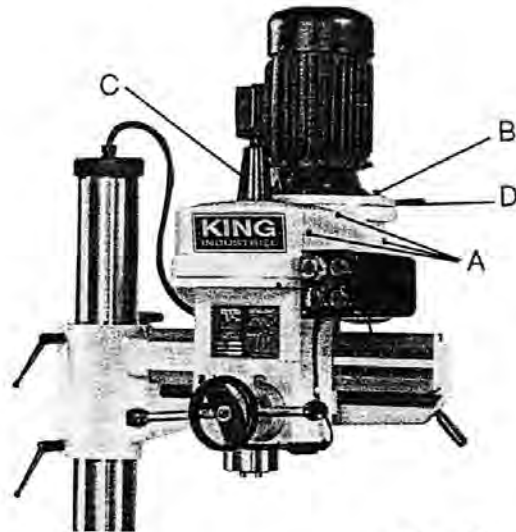

Fig. 2
- (1) Turn off the power.
- (2) Remove motor side plate (right & left) by loosening set screw A (Part No. 66).
- (3) Loosen motor base screw B & C (Part No. 59, 60), move the grip D by clockwise direction to loose the motor belt.
- (4) Select the suitable R. P. M., according to speed chart (Fig. 2). Then place the belt on desired pulley step. Hold the grip D toward counter-clockwise direction for pulling belt to tight.
- (5) Tighten two screw B & C.
- (6) Cover the side plates, tighten the screw A.